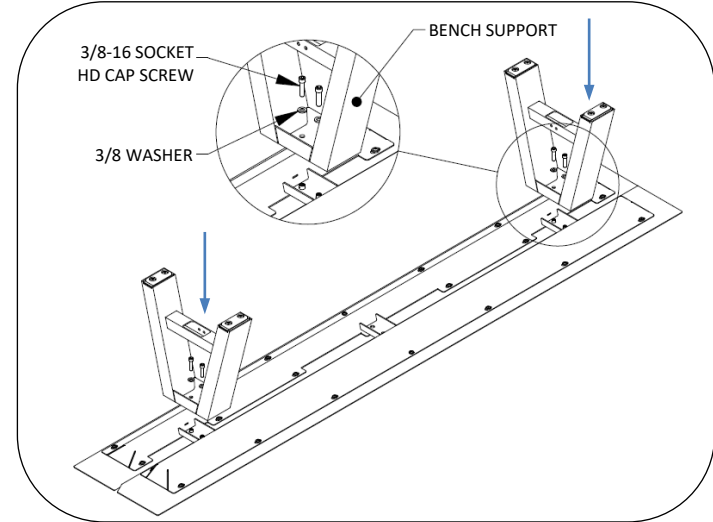

Fig. 1 – attach supports to bench seat
3. Install washers and 3/8 socket head cap screws, 2 per support, as shown in Fig. 1.